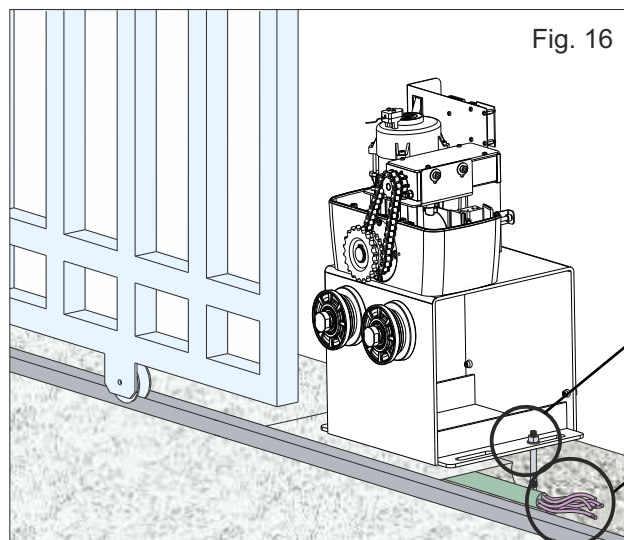

Fig. 16
- 2.1. Arrange a concrete (R425) basement according to the dimensions shown in **Fig. 17**; the motor reducer will be concreted on the basement by the use of the anchor bolts (**Fig. 16**)
- 2.2. Foreseen the passage for a flexible plastic pipe of at least **1,20 inches** in diameter into the basement for the electric cables passage (**Fig. 16**)